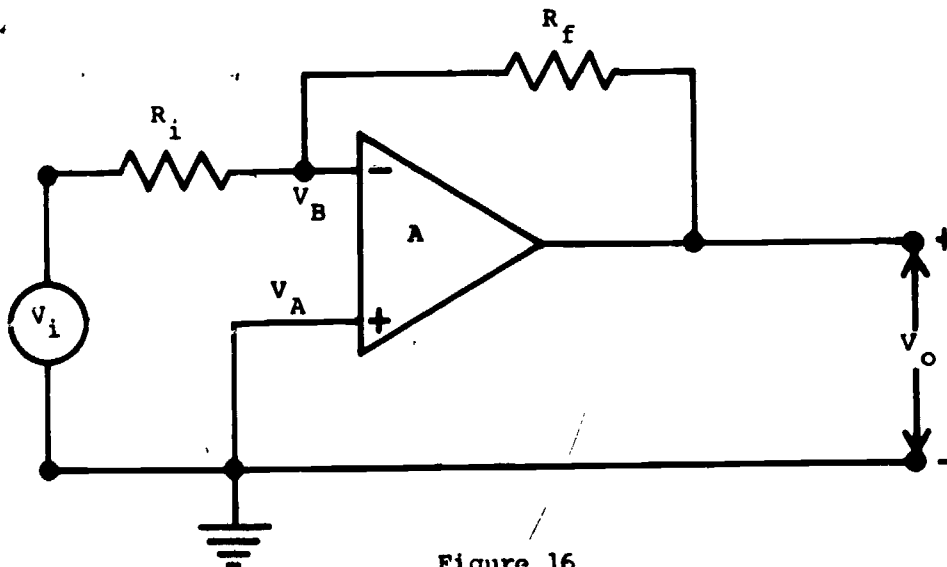

Figure 16.
Most commonly, op-amps are used with feedback circuits - a portion of the circuit which connects or feeds the output back to the input. The result is called a closed-loop op-amp circuit. In this connection the gain is essentially independent of the open loop gain of the op-amp. The simplest of these circuits is the inverting amplifier shown in Figure 16. In this circuit the feedback resistor, R_f , provides a current loop connecting the output back to the inverting input.
The closed-loop gain (G) of the inverting amplifier is determined by the fraction of the output voltage that appears at the inverting input. In the circuit of Figure. 16, this is determined by the values of the voltage divider, resistors R_f and R_i .